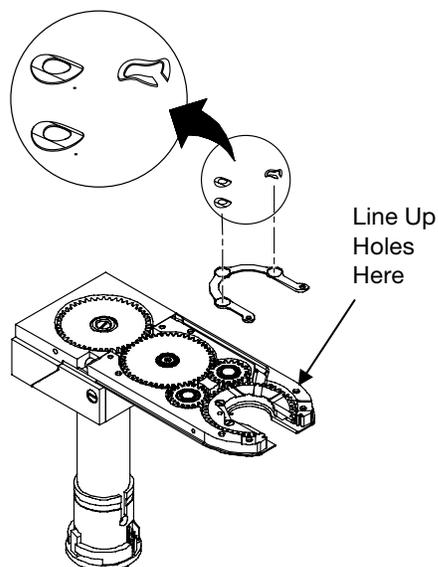

Figure 53 Installing the Brush and Disc Springs
5. Install the new wave spring and two curved disc springs into the brush pockets, making sure they are positioned as shown. See Figure 53.